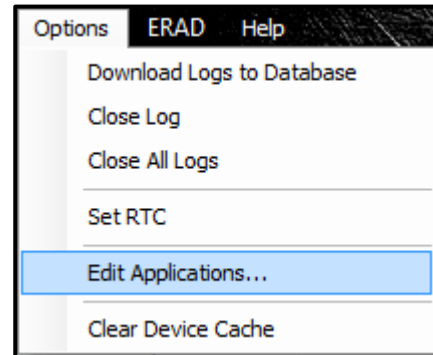

Figure 8.7-1: Options Menu, Edit Applications
3. Select "Edit Applications..." from the Options menu (Figure 8.7-1).